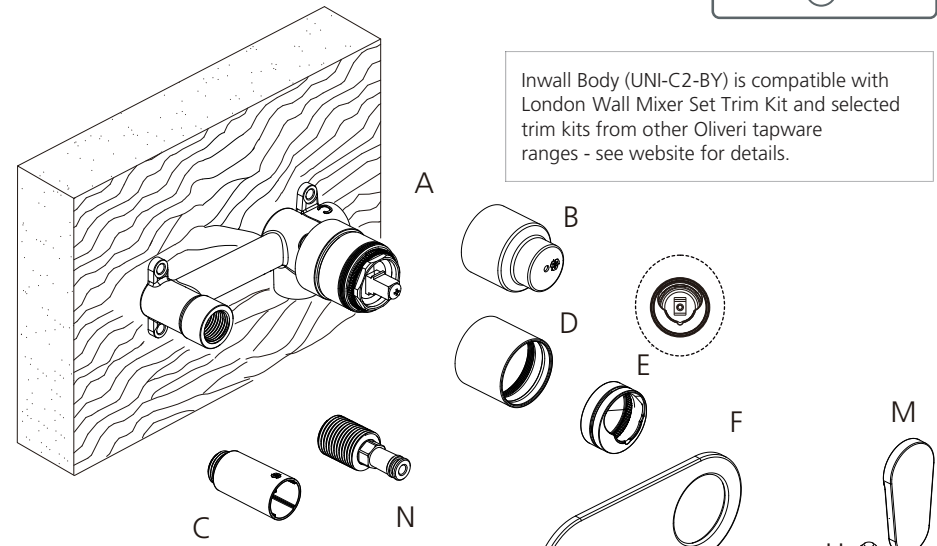
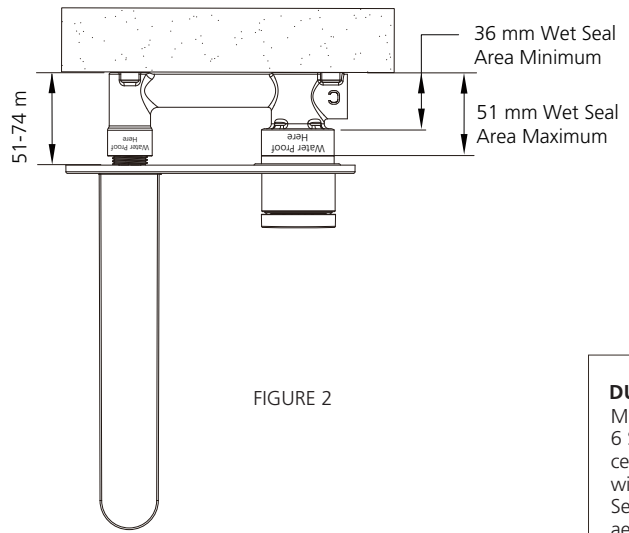

FIGURE 1
FIGURE 2
N.B To convert to an open flow regulator (for installation over a bath) or 5 Star WELS compliant mixer, the installed aerator is to be removed using the Aerator Key (J) and replaced with the included open flow regulator (O) or 5 Star WELS aerator (K).
3. Ensure Product is complete as per exploded drawing (Figure 1). Inwall Body components are labelled: A, B, C.
4. All Wall Mixer Set Bodies are supplied with Plastic Protection Body Covers (B) and (C). Ensure the Body Covers (B) and (C) remain on the Mixer Body prior to, and during installation to prevent any damage.
5. Screw Mixer Body (A) to the Stud Wall or Brick Cavity taking into account the wet seal area maximum set out from the back of Mixer to the finished wall surface (Figure 2).
2. Ensure Product is complete as per exploded drawing (Figure 1). Trim Kit components are labelled D through M.
3. Remove Protective Cover (B) and (C) from installed Inwall Mixer Body.
4. Use thread seal tape to wrap Connector (N) and screw into Body (A).
5. Screw Decorative Sleeve (D) to Body (A), applying plumbing-grade grease to the O-ring.
6. Press Decorative Cover (E) into Finishing Sleeve (D) with the cut-out at the bottom.
7. Fit Wall Plate. The Wall Plate (F) is fitted with concealed O' rings, to assist with assembly over Mixer Body use soapy water or plumber's grade grease on concealed O' rings.
8. Fit Spout. Apply plumber grade grease on Connector (N) O-rings. Place the Spout (G) onto Connector (N) through Wall Plate (F). Align spout and fix in place using Grub Screw (L).
9. Fit Handle. Slide Handle (M) onto Cartridge post. Using Grub Screw (H) and Allen Key (I), fit handle to Mixer.